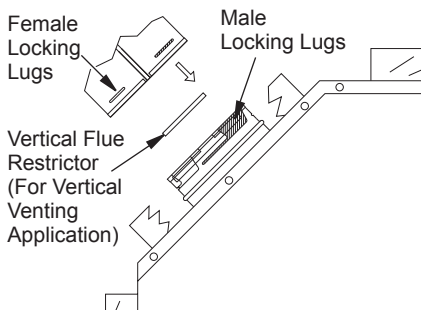

Figure 6 - Venting Installation
1. Install elbow to fireplace collar adapter located on back of the unit at a 45° angle. Slide elbow over collar and twist to lock. Check to insure proper connection (see Figure 6).
6. **For vertical installation**, a vertical termination is available. A vertical flue restrictor must be installed into inner collar of fireplace as shown in Figure 6, page 10. When installing a length of pipe for vertical termination that is over 3 ft., support pipe every 3 ft. using metal wall straps. Vertical to horizontal pipe must be kept at a 1 ft. to 4 ft. ratio with a maximum run of no more than 20 ft.